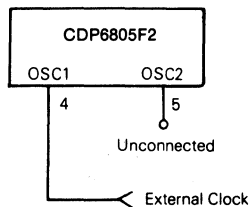
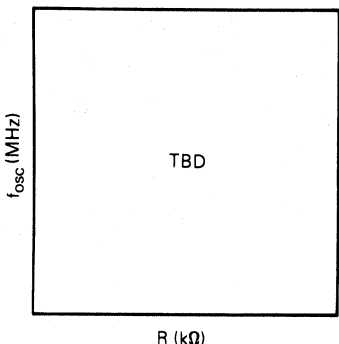

Fig. 7 - Oscillator connections.
Fig. 8 - Frequency vs. resistance for RC oscillator option only.
**RC** — If the RC oscillator option is selected, then a resistor is connected to the oscillator pins as shown in Figure 7(b). The relationship between R and  $f_{OSC}$  is shown in Figure 8.
**CRYSTAL** — The circuit shown in Figure 7(a) is recommended when using a crystal. The internal oscillator is designed to interface with an AT-cut parallel resonant quartz crystal resonator in the frequency range specified for  $f_{OSC}$  in the electrical characteristics table. Using an external CMOS oscillator is suggested when crystals outside the specified ranges are to be used. The crystal and components should be mounted as close as possible to the input pins to minimize output distortion and start-up stabilization time. Crystal frequency limits are also affected by VDD. Refer to Table 1, Control Timing Characteristics, for limits.
**EXTERNAL CLOCK** — An external clock should be applied to the OSC1 input with the OSC2 input not connected, as shown in Figure 7(c). An external clock may be used with either the RC or crystal oscillator mask option.  $t_{OXQV}$  or  $t_{ILCH}$  do not apply when using an external clock input.